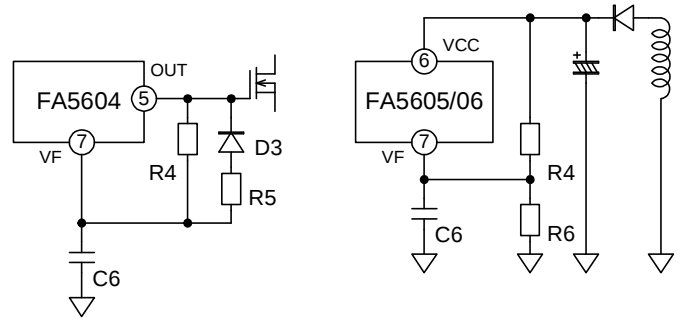

Fig.28
For this IC, as shown in Fig. 28, it is possible to correct the overcurrent limit in order to obtain the output characteristics like (2) by smoothing the OUT terminal voltage by R4 and C6 and apply it to the VF terminal for the forward circuit, or by applying the VCC voltage to the VF terminal for the flyback circuit. In addition, it is possible to obtain the output characteristics like (3) by adding R5 and D3 to correct it
Moreover, when the overvoltage protection function is made effective, you set external pull-up to exceed the latch threshold voltage 7.3V by using the zener diode ZD and the resistor R (Fig.28). In that case, the zener voltage V_z should consider the voltage ($R \times I_z$) of the resistor R.